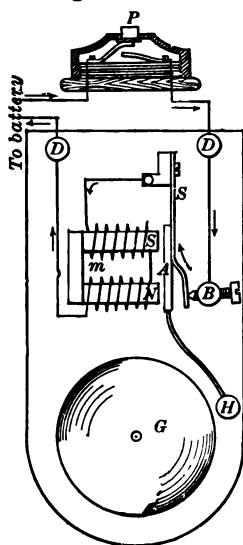

FIG. 237. — Electric-bell circuit.
**269. Electric bell.** An electric-bell circuit usually includes a battery of two or more cells, a push button, and connecting wires, besides the bell itself (Fig. 237). When the circuit is closed by pushing the button *P*, the current flows through the electric magnet (*m*) and attracts the armature (*A*). As